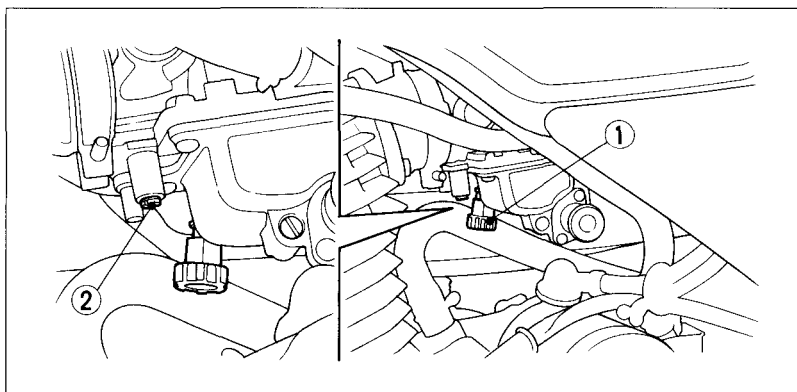

Fig. 4-9
2. Adjust idle speed by turning the throttle stop screw (Fig. 4-9). Idle Speed: $1,400 \pm 100$ rpm.